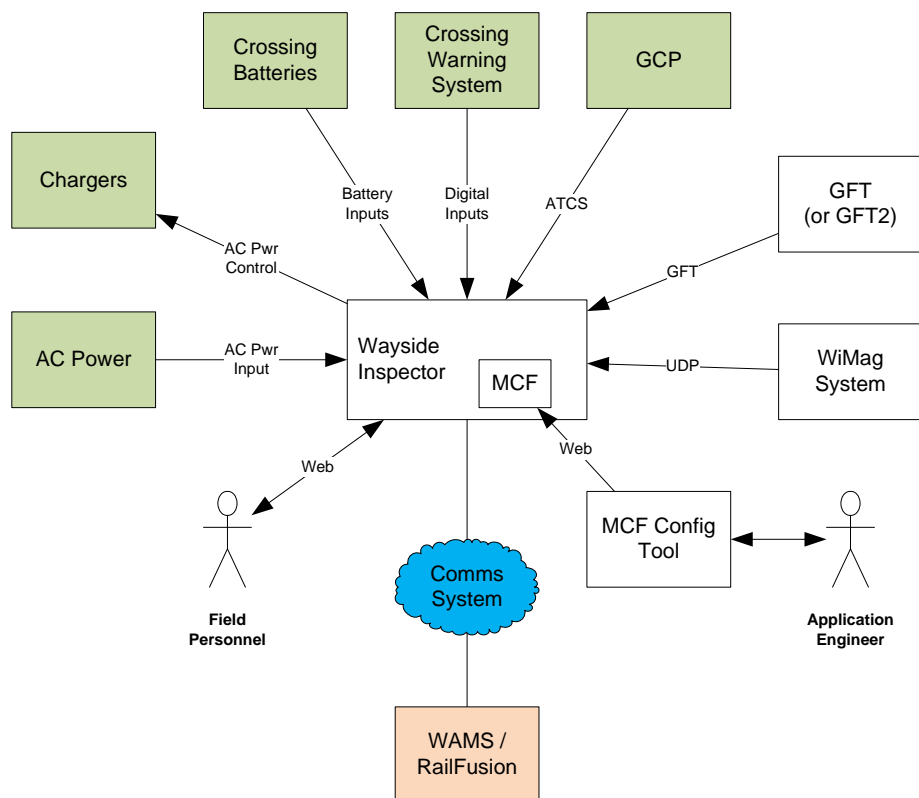

Figure 2-1: Context of Wayside Inspector Installed at Crossing
To achieve those goals, the system uses the Wayside Inspector (WI), installed at the crossing, to test standby power, test for grounds, monitor the crossing, and test warning time. The Wayside Inspector monitors the state of discrete I/O signals, battery voltages, and AC power at a crossing. From that information, the Wayside Inspector analyzes the operation of the crossing warning system and automatically performs periodic inspections of the crossing warning system. The Wayside Inspector can send alarms and automated inspection results to the back office system using several possible communications methods. The inspections are performed by the Wayside Inspector by executing application programmable logic. Figure 2-1 shows the context of the WI installed at a crossing.